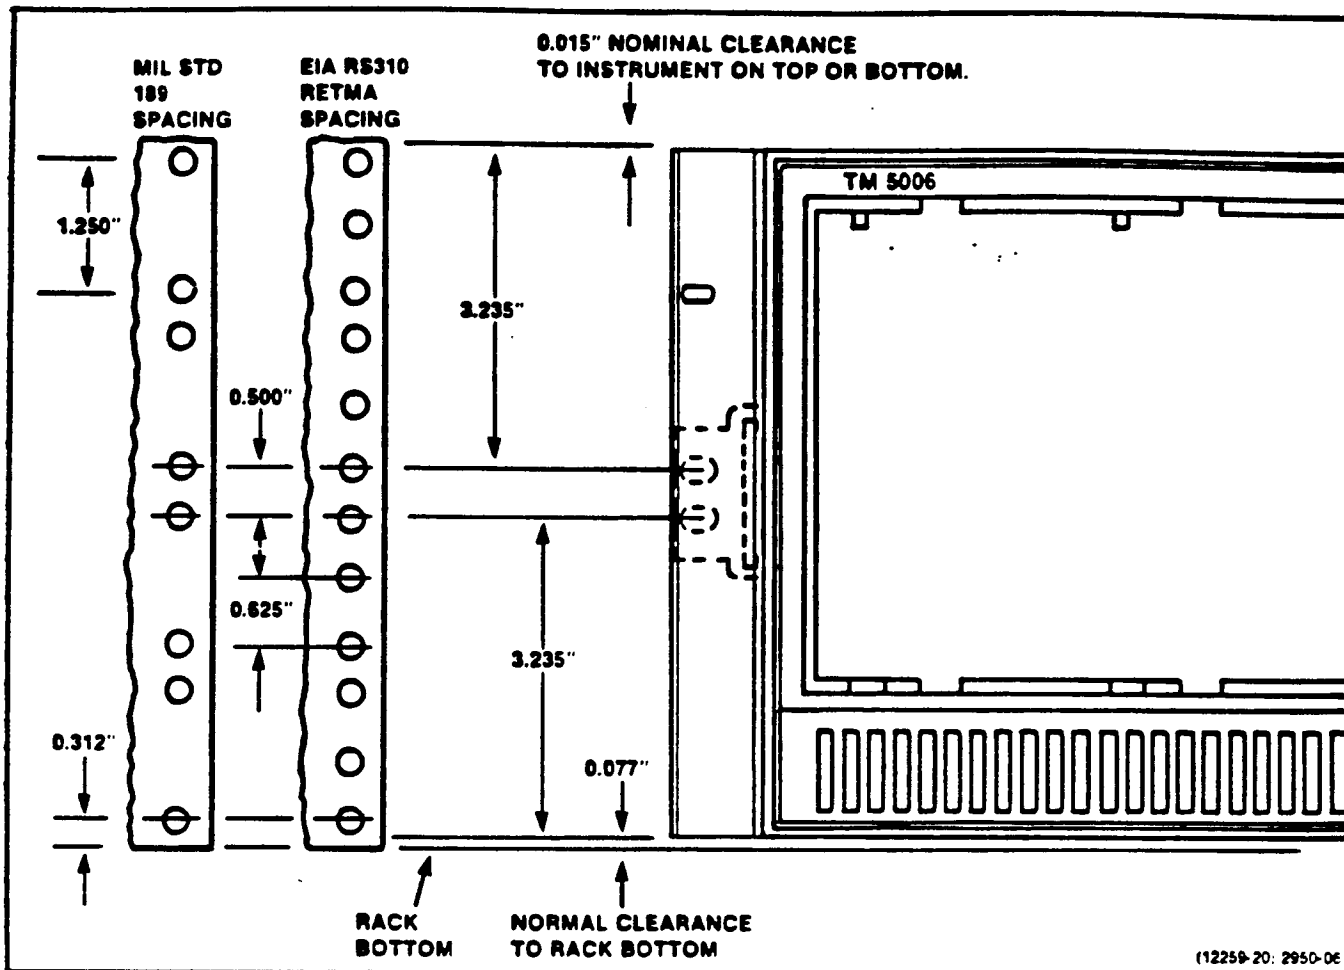

Fig. 4 - Standard Spacing and Clearances
1. To mount the TM5006 directly above or below another instrument in a cabinet rack, select the appropriate holes in the front rack rails for the stationary sections, using Fig. 4 as a guide.